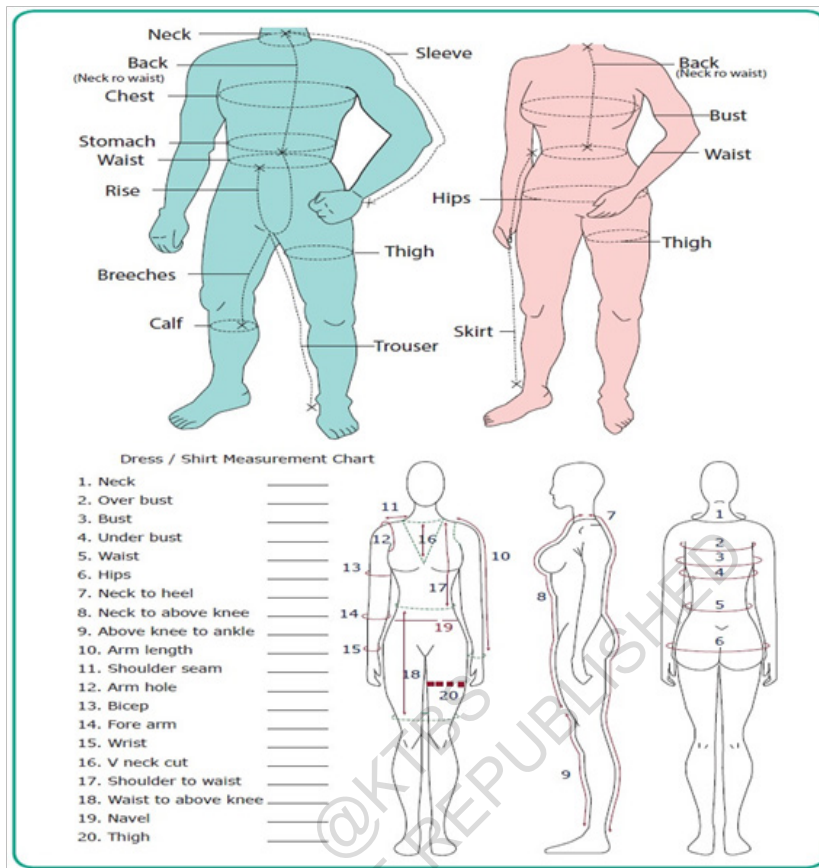

Fig.3.2: Contained
13. Upper Arm Circumference: Measure from around the fullest part of the biceps (Fig 3.2).